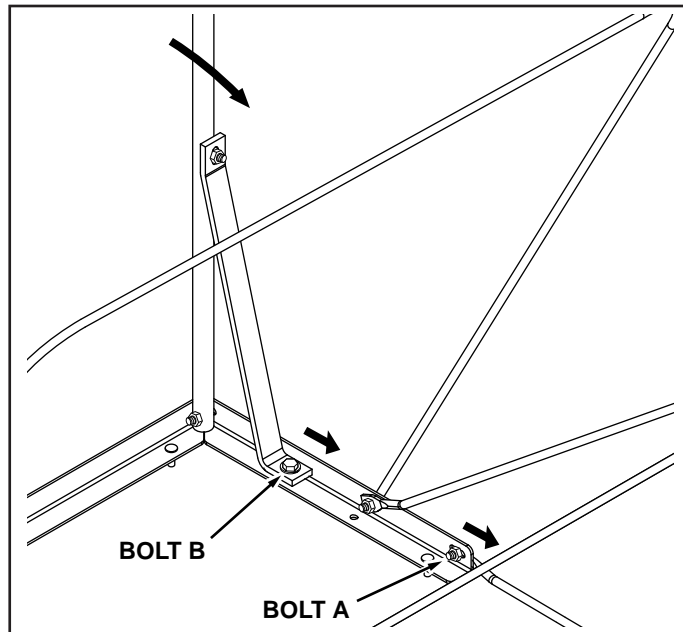

FIGURE 24
- With the rope hanging down loosely, check if the cover fits down freely around the rear of the cart tray. If the cover needs to extend farther to the rear, loosen bolts (a) in figure 24 to slide the support rod rearward.
- If the rear of the cover does not rest down freely around the rear of the cart tray, loosen bolts (b) in figure 24 and tilt the front support tube rearward while sliding the bottom of the braces rearward. Retighten the bolts.